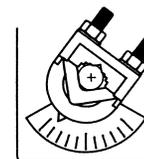
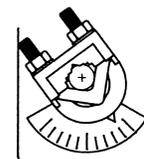

FIG. 8
FIG. 9
1. Rotate the valve linkage lever (1) so that valve stem is fully down.
2. Depress the actuator's disengagement button (5) and manually position the pointer to the first mark from full Clockwise (see FIG.8)
3. Place the actuator over the linkage shaft (2) and the non-rotation pin (3) until the cover on the actuator rests against the linkage cover.
4. Finger tighten 2 coupler nuts (4) until the u-bolt (6) contacts the linkage shaft (2).
5. Holding the linkage lever (1) to assure valve stem stays down, and checking that the actuator cover is held against the linkage, evenly torque the 2 coupler nuts (4) to 110-120 in-lbs.
6. Check final operation by depressing the disengagement button (5) and rotating the linkage lever (1) in each direction.
3-Way Valves: The valve seats should limit the actuator pointer between the first mark from full clockwise (FIG. 8) and the first mark from full counterclockwise (FIG. 9).
2-Way Valves: The valve seat should limit the actuator pointer from passing the first mark from full clockwise (FIG. 8).